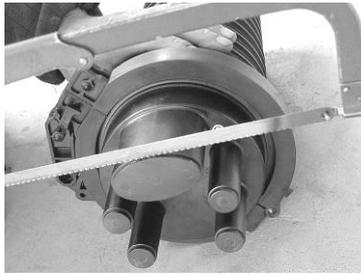

Figure 4
A. Cut the tail of the cable port(Figure 4)